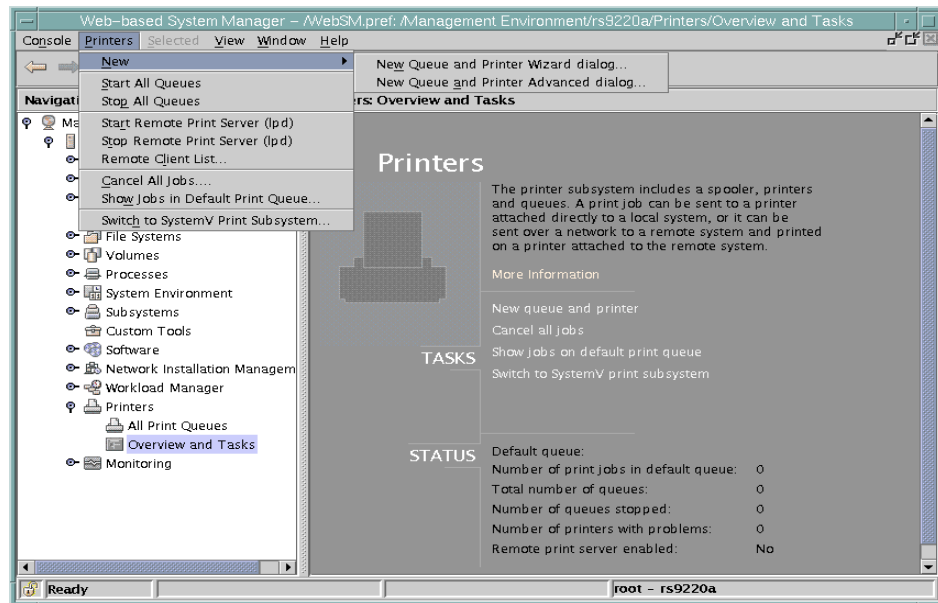

Figure 60. Overview and tasks panel for printers
1. Start the Web-based System Manager either from the CDE **Application Manager** -> **System_Admin** -> **Management Console**, or from the command line using `wsm`. From the main **Management Environment** panel, open the **Printers** container, then the **Overview and Tasks** object. A panel similar to Figure 60 should appear.